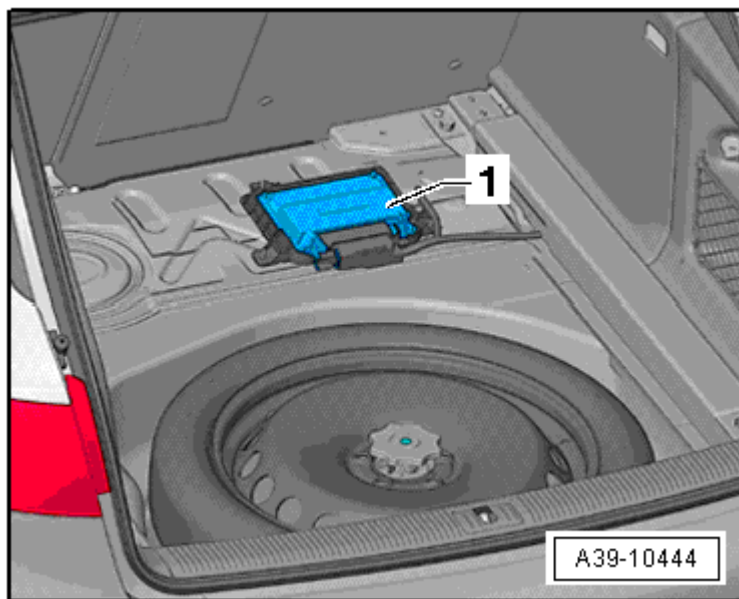

Fig. 34: All Wheel Drive (AWD) Control Module -J492- in the Audi A4 Avant
- Installed location on the A4 Avant, refer to **Fig. 34**